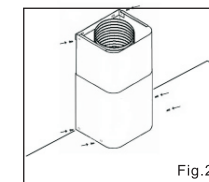

Fig.20
1. Adjust the height of the inner duct cover to the duct cover-mounting bracket. Secure the inner duct cover with two (5/32"x5/16") screws (included) (Fig.20 )
2. Fasten out duct cover to plastic plate on the hood with four (5/32"x5/16") screws (included) (Fig.20 )